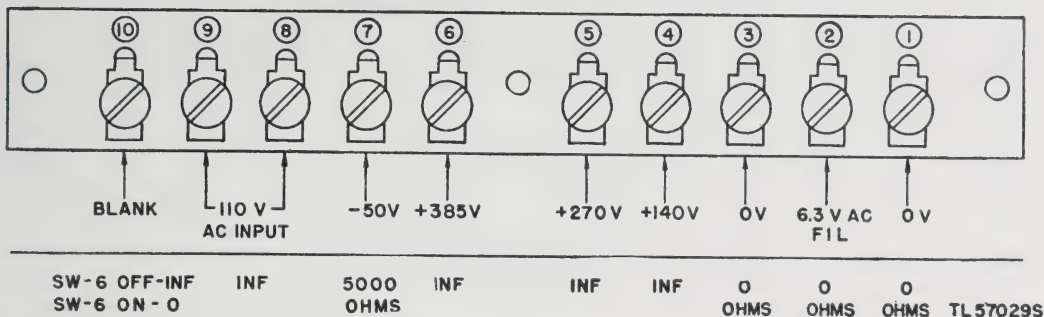

Figure 36. Receiver terminal strip, voltage and resistance measurements.
c. If no abnormal indication appears, measure the voltage and resistance between the terminals of terminal strip E4 and the receiver chassis (fig. 36). Correct readings will indicate that the power supply